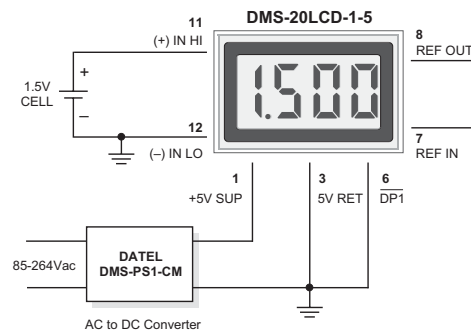
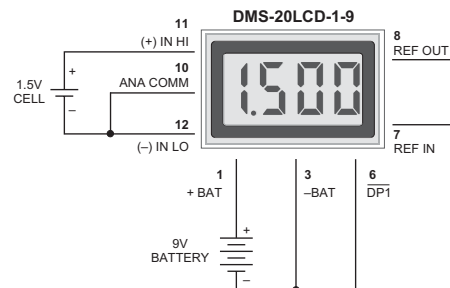

Figure 5. Floating Input Measurements
Figure 6. Floating Input Measurements
- 4. Floating Signal Source Measurements:** Floating signals can be measured using the circuits shown in Figures 5 and 6. Figure 5 uses a 5V-powered meter. Figure 6 uses a 9V-powered meter. Connecting pin 10 (ANALOG COMMON) to (-) INPUT LO (pin 12) provides the reference point for the meter's input.